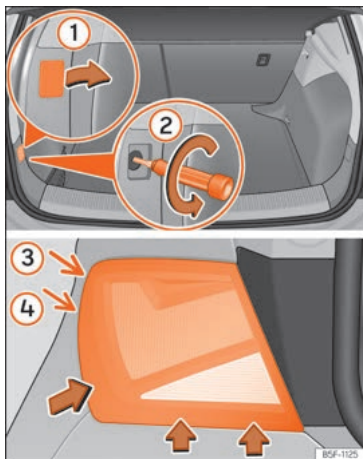

Fig. 115 Trunk: location of the bolt securing the tail light unit. Remove the rear light unit from side panel.
- Remove the cover by prying the flat side of a screwdriver into the recess and remove the cover from the opening » **Fig. 115 ①**.
- Carefully loosen the screw located behind the cover with a screwdriver, turning it anti-clockwise (arrows) » **Fig. 115 ②**.
- Tilt the light in the direction of the arrows until it comes out of its housing (positions **③** and **④**) » **Fig. 115**.